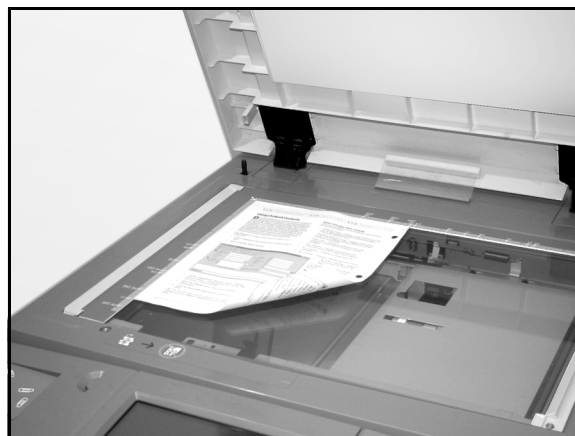

Figure 20: Placing a document on the Document Glass
- Raise the Duplex Automatic Document Feeder (DADF) or Document Glass Cover and place the document, face down, on the Document Glass, as in Figure 20.